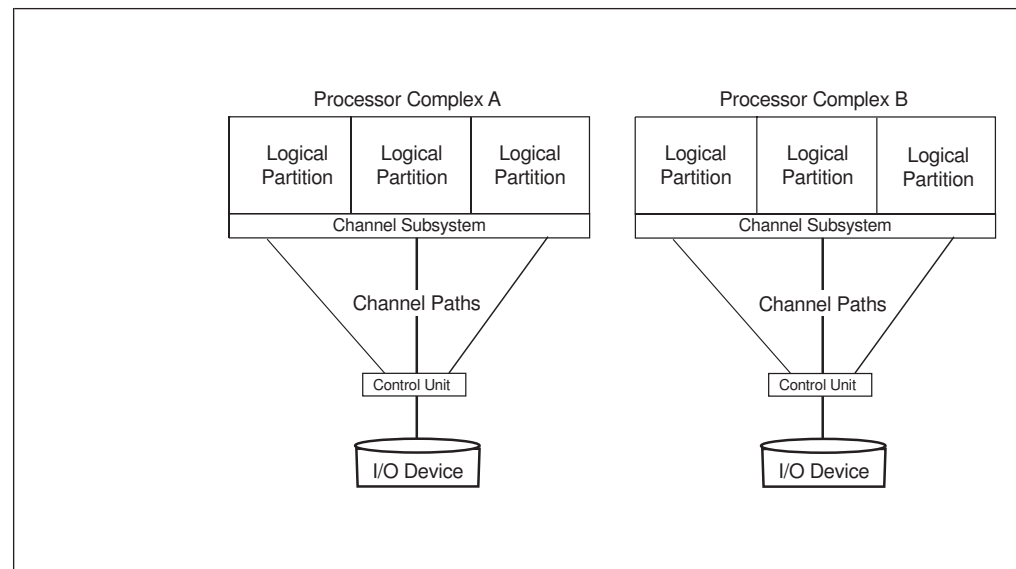

Figure 8. Shared Channel Paths
Figure 8 compares three unshared channel paths to a single shared channel path. In processor complex A, three logical partitions can access an I/O device through three unshared channel paths. In processor complex B, which has MIF capability, three logical partitions can access an I/O device through a single shared channel path.
- Using shared ESCON and FICON channel paths does not reduce the number of logical paths needed at a control unit. A control unit requires a logical path for each logical partition that can access a shared channel path. For example, in Figure 8, the control units shown connected to processor complexes A and B both require three logical paths for the three logical partitions.